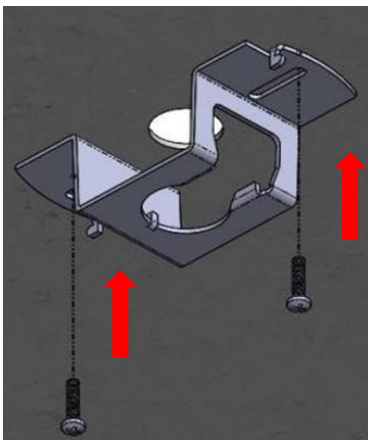

Fig. 3
- Install the mounting bracket using 2 #8 screws. Mount the pipe assembly into the bracket. (Fig. 3 & 4)